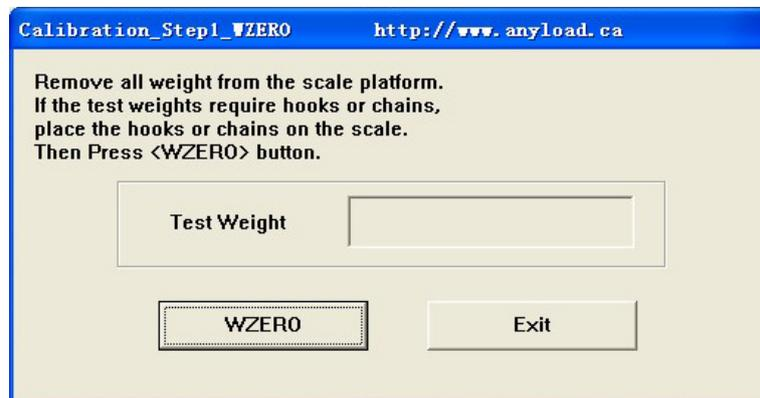

Figure 3-1 “WZERO” Dialog
- Click “Calibration”, pop-up dialog, (see figure 3-1)